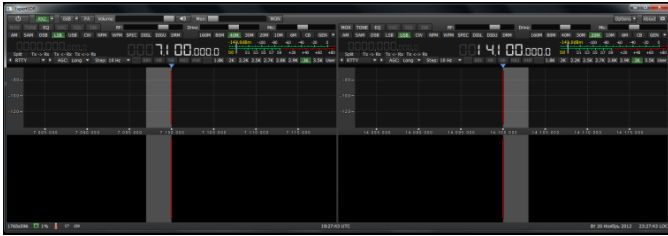

Figure 8.15 – Horizontal arrangement of receivers' windows
- In Figure 8.15 horizontal arrangement of two receivers is showed. Such order is convenient if operator's work place equipped with one or better two big monitors by diagonal from 22" and more.